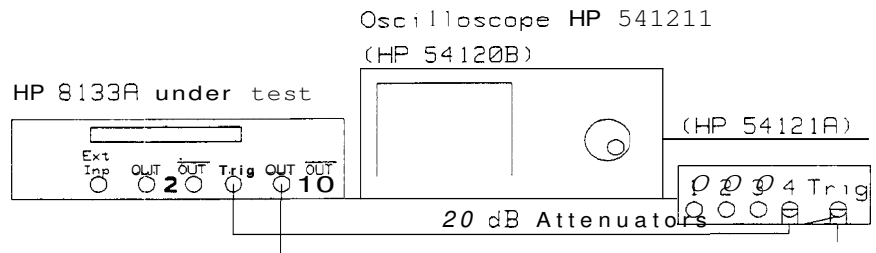

Figure 3-5. TRIGGER Transition Time Test Set-up
1. Connect the HP 8133A Pulse Generator to the oscilloscope as shown in Figure 3-5.